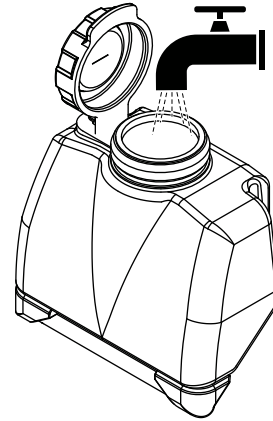

**Figure 15. Fuel Check**
1. Visually check fuel level. If fuel level is low, refuel with unleaded fuel (Figure 15).